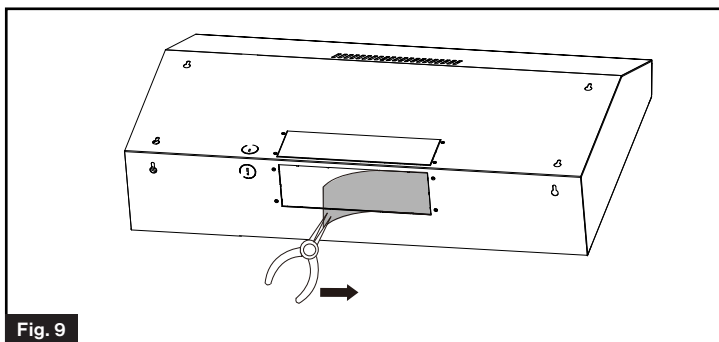

Fig. 9
2. Tear the seal with pliers by pulling outward. (Fig. 9)